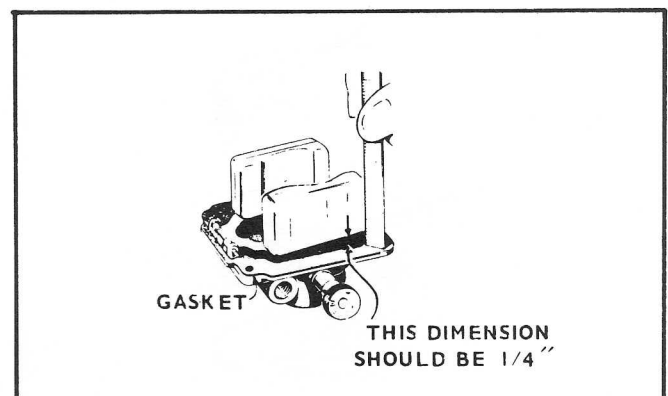

FIGURE 12. FLOAT LEVEL ADJUSTMENT
3. With the carburetor casting inverted and the float resting lightly against the needle and seat, there should be 1/4 inch clearance between the bowl cover gasket and the free end of the float (side opposite needle and seat). See Figure 12.